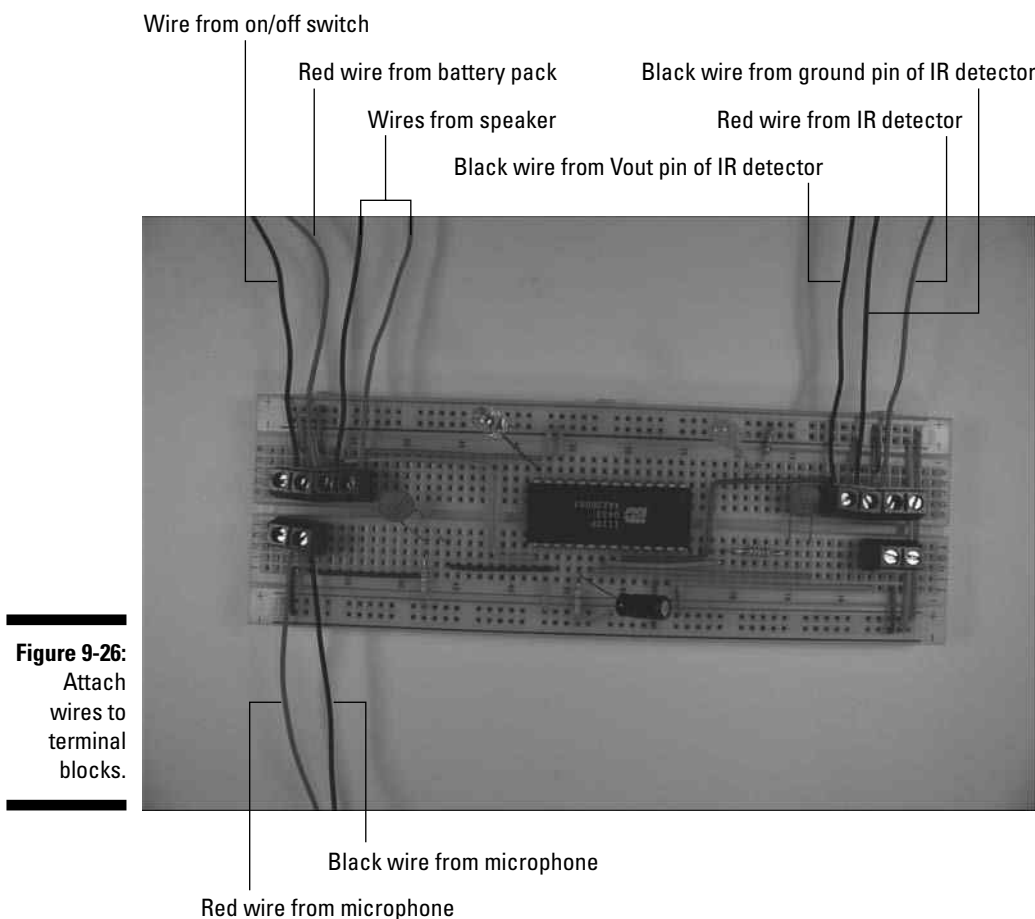

Figure 9-26:
11. Attach the wires from the battery pack snap connector, on/off switch, IR detector, microphone, and speaker to the terminal blocks, as shown in Figure 9-26.